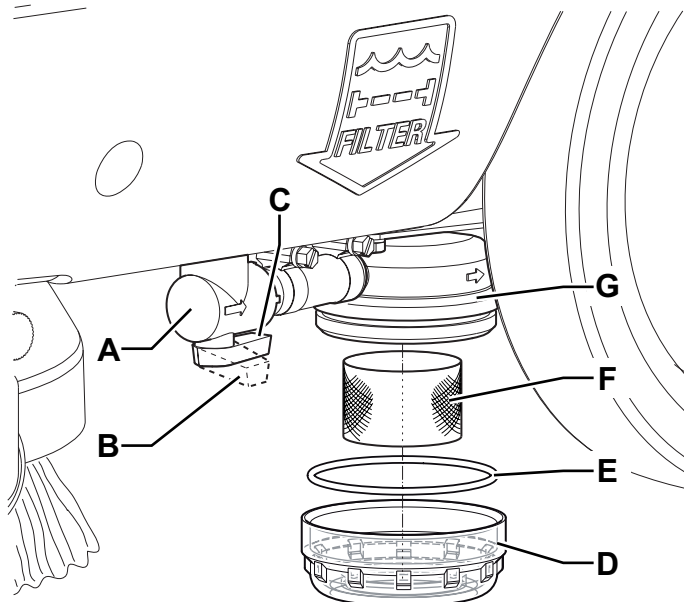

Figure 9
2. Check that the knob (62) is turned to "0".
3. Close the solution valve (A, Fig. 9) under the machine, in front of the left rear wheel.